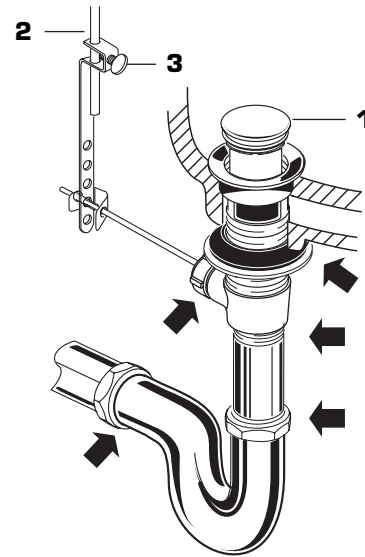

**FIGURE-4B:**
- Assemble Pivot Rod **(9)** as shown in Figure-4B. Notice the position of the Concave Washer **(G)**.